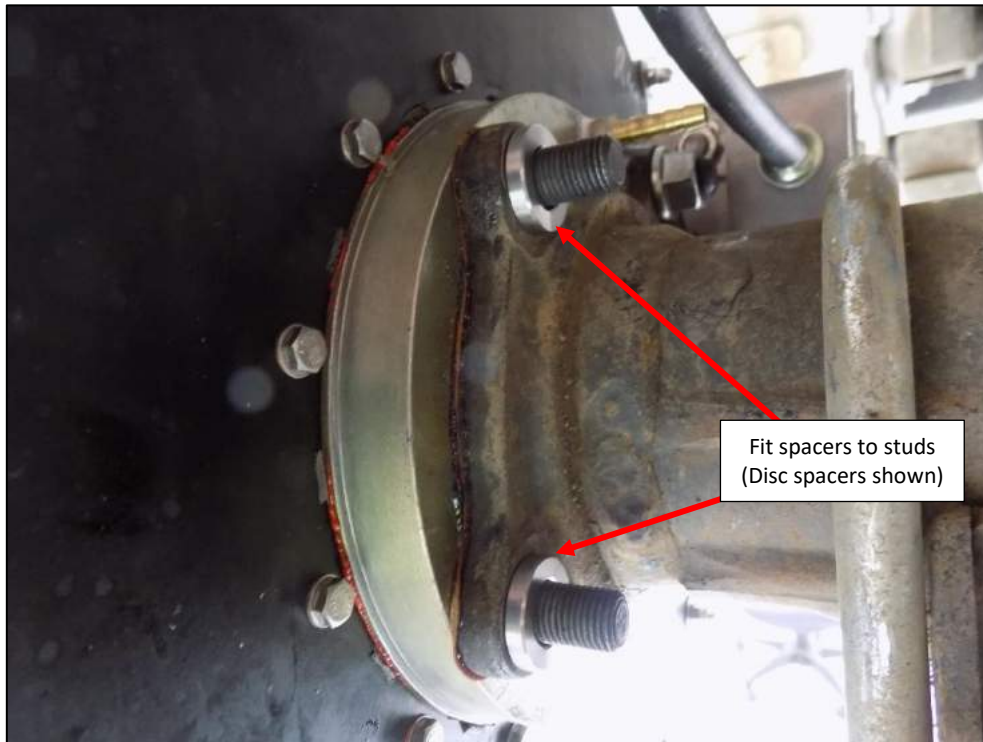

Figure 12
23. Fit the spacer washers to the two front mounting studs (Figure 12 DISC only). For Drum use the D shaped washer as supplied in the kit.